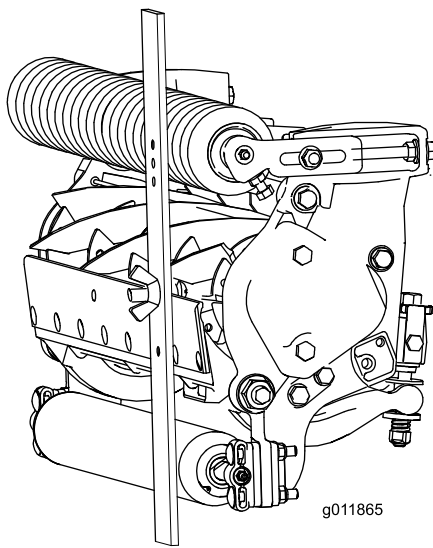

Figure 19
- Hook the screw head on cutting edge of bedknife and rest rear end of bar on rear roller (Figure 19).
- Rotate the adjusting screw until the front roller contacts the gauge bar (Figure 19). Adjust both ends of roller until entire roller is parallel to the bedknife.